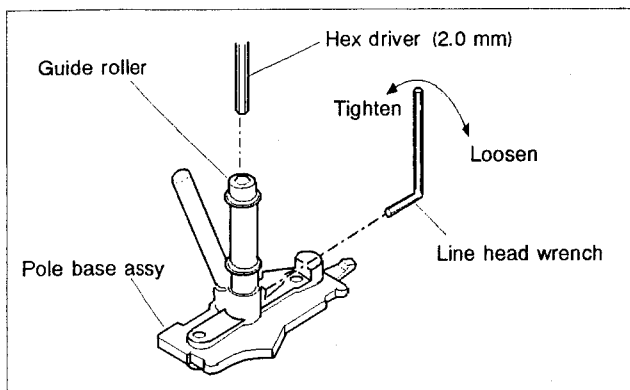
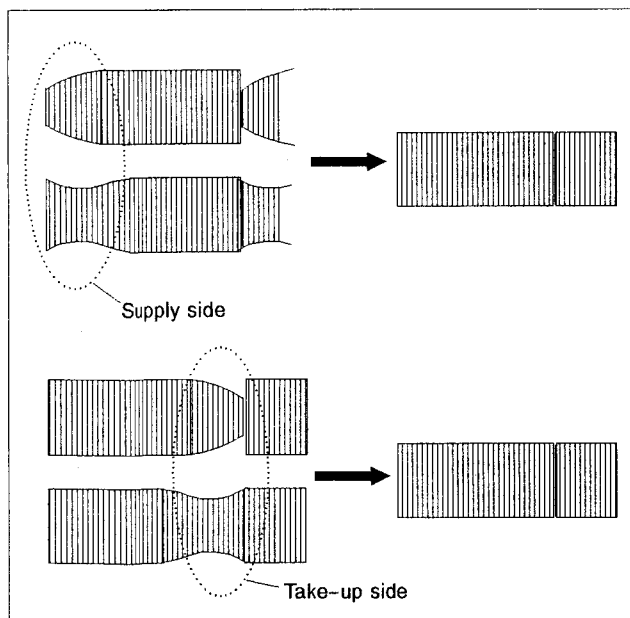

Fig. 2-7-8 SUP/TU pole base assembly
Fig. 2-7-9 FM waveform -1
- 4) If adjustment is required, first slightly loosen the set screw located at the bottom of the guide rollers. Using the guide roller adjustment tool, adjust the supply and take-up guide rollers (refer to Fig. 2-7-8) to obtain the correct waveform. Refer to Fig. 2-7-9.